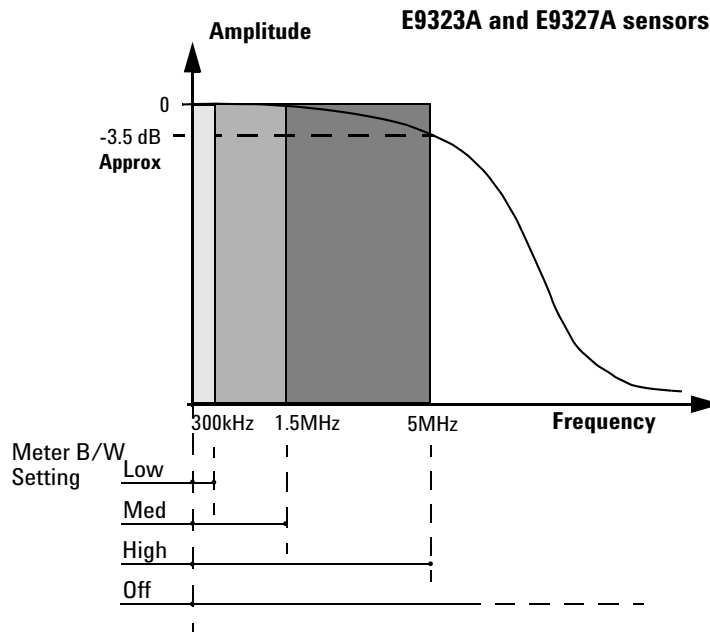

Figure 3-5 Bandwidth Filter Shapes
* The Low, Medium, and High settings provide flat filter responses with very sharp cutoff points by applying digital signal processing techniques. The Off setting removes all signal conditioning. Refer to Figure 3-5.
A fourth, filter Off, setting is provided. This provides approximately 3 dB roll off at the maximum sensor bandwidth and is best suited for accurate trace capture, removing any ringing effects caused by the sharp cut-off filters used in the Low, Med and High settings. Figure 3-5 shows the filter shapes associated with the E9323A and E9327A power sensors. Table 3-1 on page 76 lists all the bandwidth settings. Selecting a bandwidth only slightly higher than required by your signal can help reduce noise and improve accuracy on peak measurements. It can however, reduce the processing speed for long acquisition times.